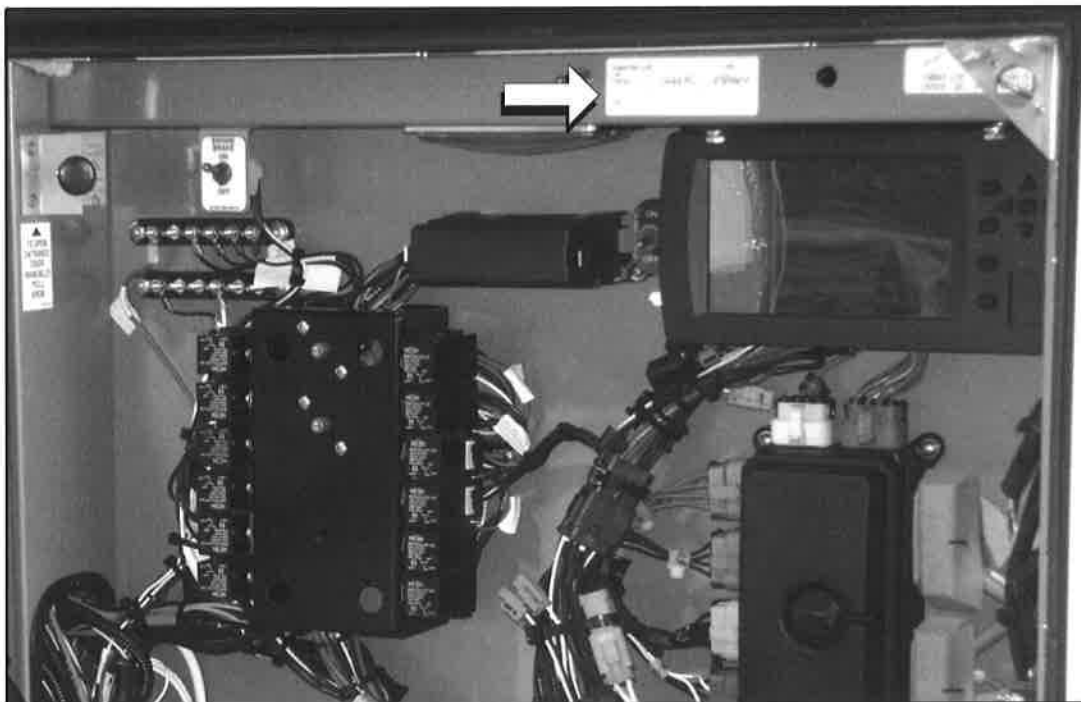

Figure 1. Program Rev. Level decal located on the front junction box frame.
3. Open the front junction box door. Locate the Program Rev. Level decal in the upper, RH corner (refer to Figure 1).